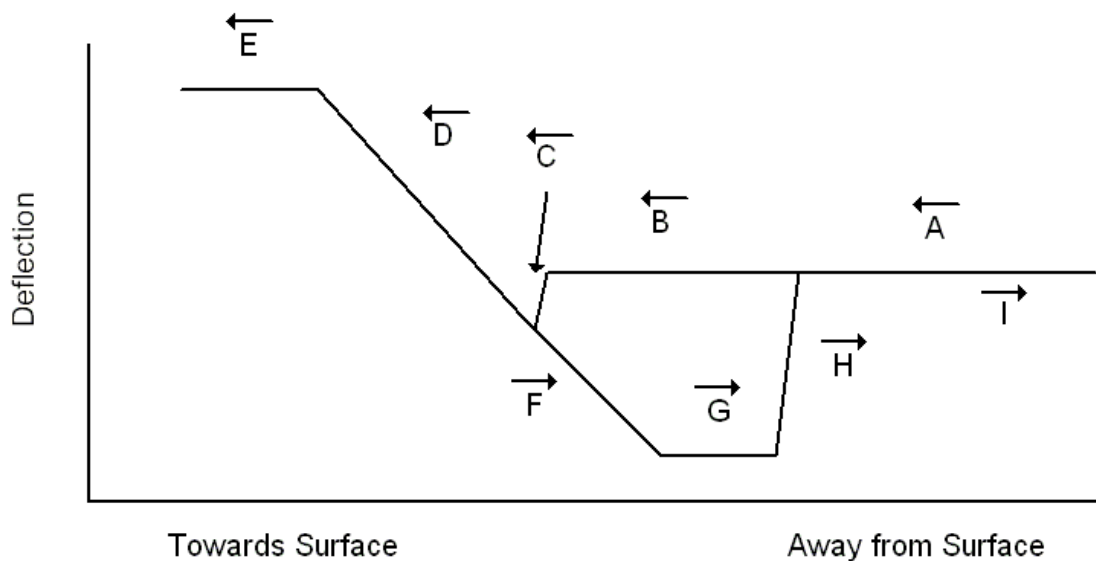

Figure 10.1 Regions of a Force Curve
- G** The tip is held very strongly against the surface, and as you pull it away it is deflected so much that the photodiode is railed at -10 V. (See Figure 10.1 region E). If you see this you need to either decrease the adhesion between the tip and surface, or increase the spring constant by picking a different lever. If you are working in air, then you probably have capillary adhesion between the tip and surface. But you will not have capillary condensation if you put the tip-surface system in water, as that greatly decreases the adhesion.
- I** The end of the force curve, where the tip returns to "zero force." This region may contain additional downward deflections and jumps back to zero, which are most likely polymer-stretching events. These occur when polymer chains attach to the tip after it has jumped away from the surface (See Figure 10.1 region H).